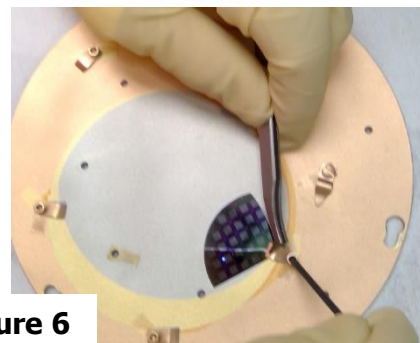

Figure 6
- 4.6.7 Load sample onto block sample holder using clips. NOTE: Only use the block located inside the chamber. (Figure 6)